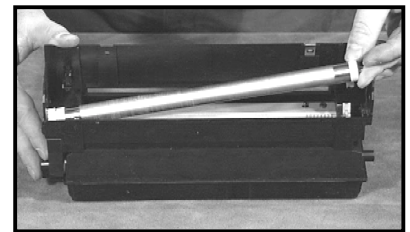
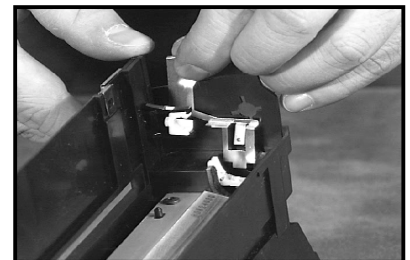

Figure 6
Figure 7
6. Remove the mag roller by lifting the non-gear side first. Lift gently and slide to the right, do not lift too high or the shaft will bind in the cartridge (fig. 6). Blow off the mag sleeve with clean dry air and set it aside for assembly. The mag roller contact is now free to slide off the end of the cartridge. Remove and keep with the mag sleeve for assembly (fig 7).